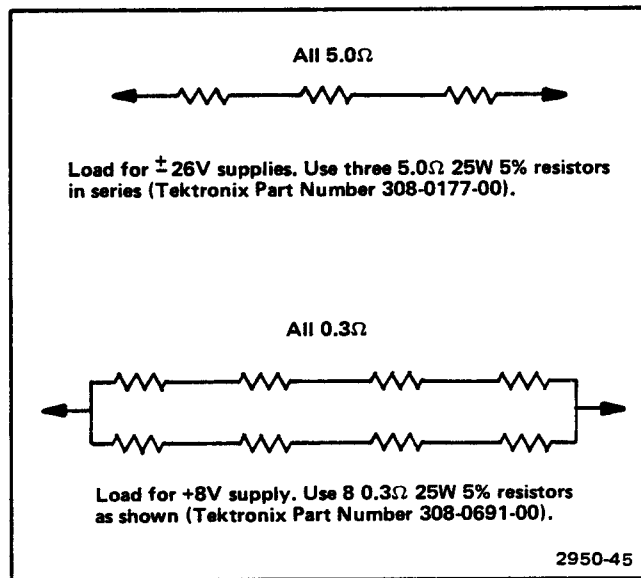

Fig. 4-3. Loads for use in internal adjustment procedure.
- d. Connect a load as described in Fig. 4-3 from +8V to ground.
- e. Connect a load as described in Fig. 4-3 from +26V to ground.
- f. Connect a load as described in Fig. 4-3 from -26V to ground.